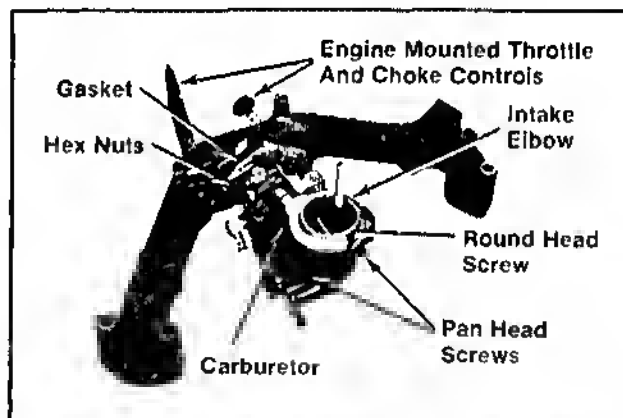

Figure 9-8. Removing Carburetor From Intake Manifold.
6. Remove the hex. nuts, carburetor with intake elbow, and gasket from intake manifold. Refer to Figure 9-8.